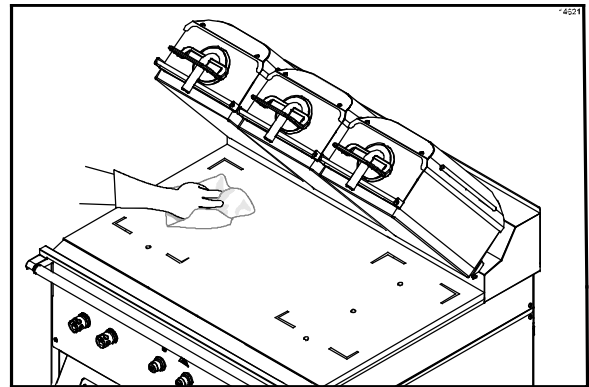

Figure 65
37. Rinse the lower grill surface with a clean, sanitizer-soaked grill cloth. (See Figure 65.)